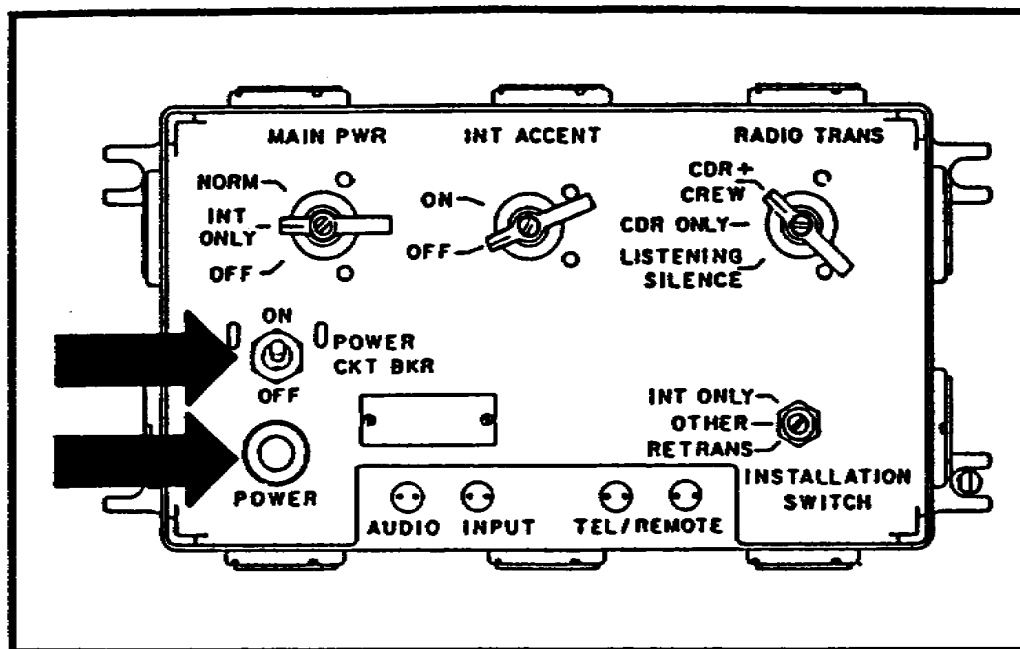

Figure 24. AM-1780 POWER CKT BKR set at ON and AM-1780 POWER lamp lights.
- (4) See Figure 24. EPC step 1d checks the AM-1780 POWER CKT BKR function.